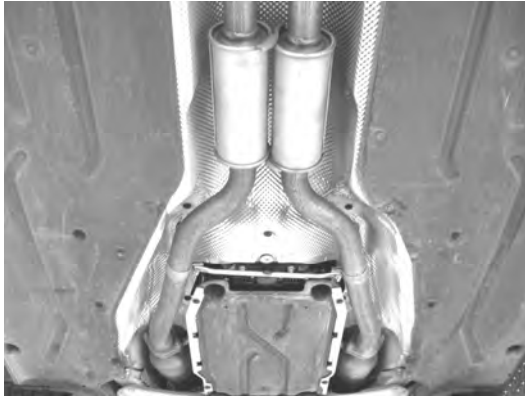

Figure 3
3. Unbolt the flanges shown in figure 3 located just behind the catalytic converters.
6. Unbolt and remove the support hanger/bracket assembly also shown in figure 3 from the original exhaust system and set aside for use during the installation of your new Borla Performance Cat-Back exhaust system.